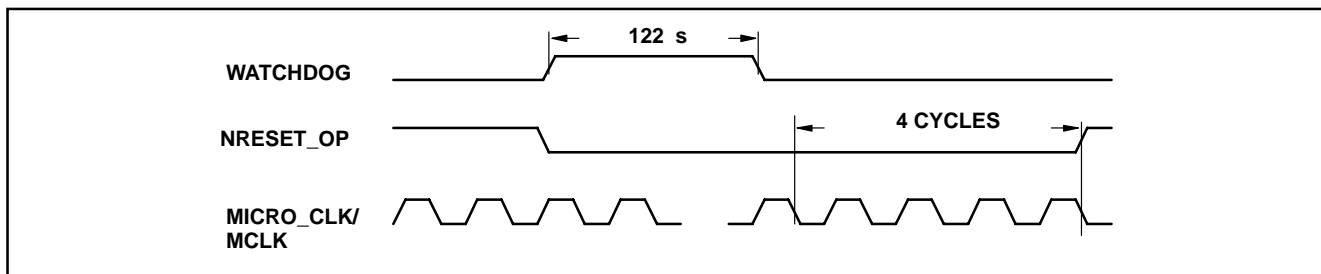

Fig. 10 : Watchdog Hardware Reset Genera-
**Watchdog:** An expiry of the watchdog will result in a hardware reset as shown in Fig. 10. This reset will clear the watchdog whose time-out period is 2-3 seconds.